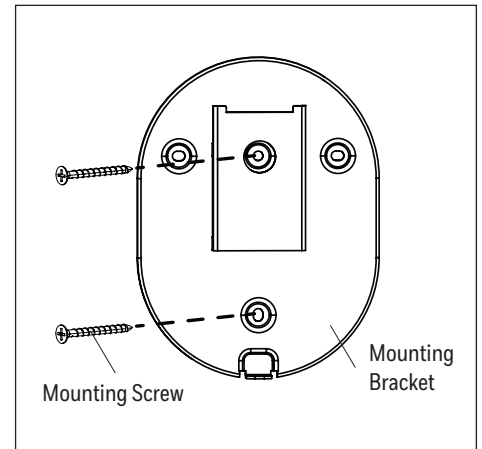

Figure 1.3
3. Use a Phillips screwdriver to install the two bracket screws through the mounting bracket, drywall (if applicable), and into the stud. Note: Drilling pilot holes can make screw installation easier. If desired, use a drill with an 1/8" diameter drill bit (or smaller) to drill the pilot holes (Figure 1.3).